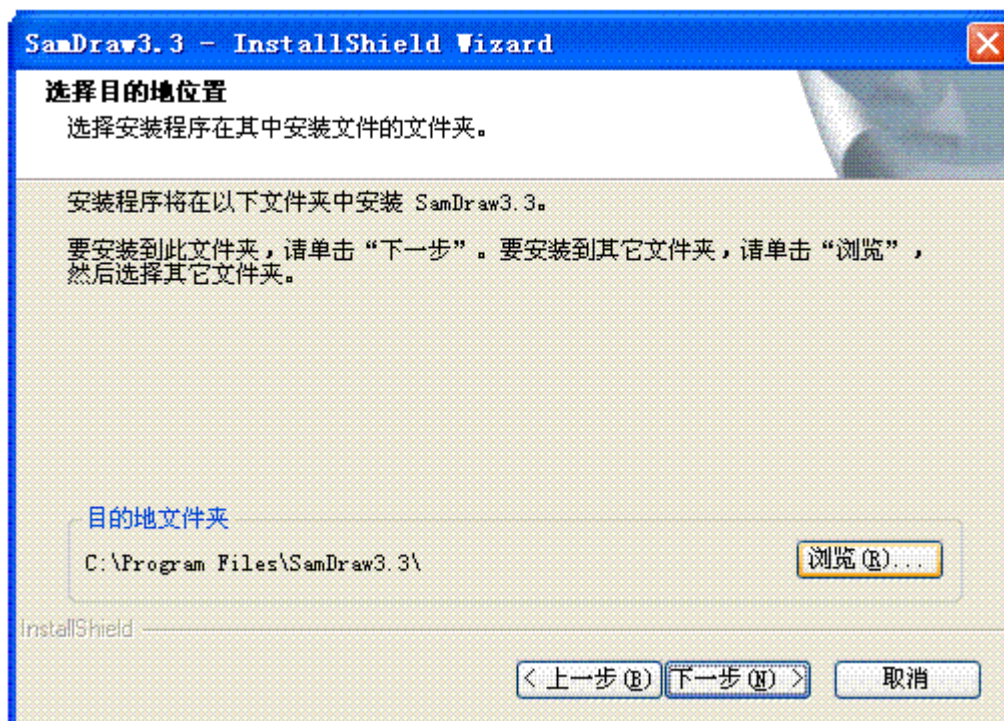

Figure 2-6: Installation directory selection page
- In the target folder page, select the folder where the software is to be installed. The default folder is “C:\ProgramFile\SamDraw3.3\”. Click here to change the installation directory, and then click “next”. See Figure 2-6.